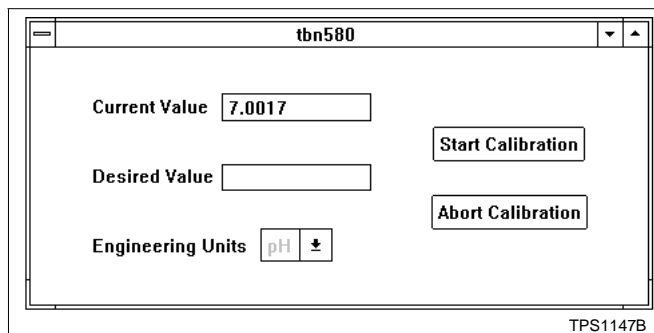

Figure 3-10. Process Calibration (TBN580)
2. Select *Calibration*, then *Process Calibration* (**CTRL-B**). A calibration dialog box appears similar to Figure 3-10.